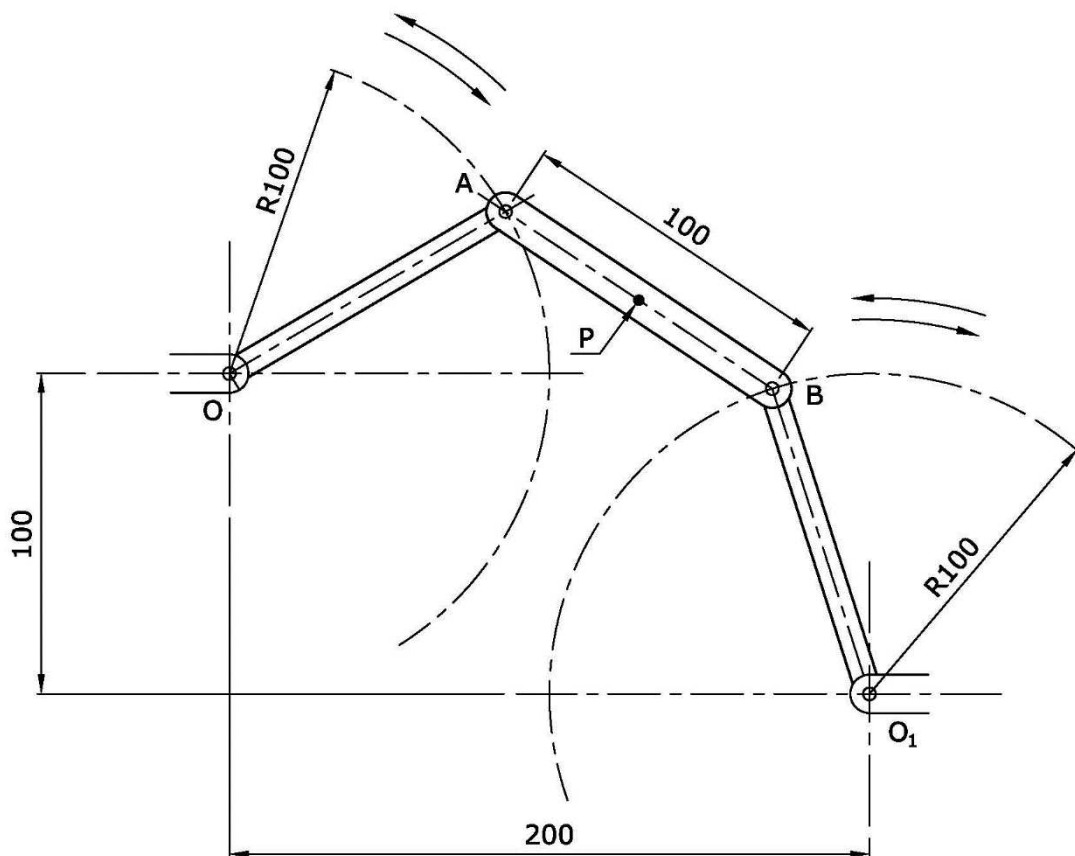

Figure 5b
a) Draw, full size, Figure 5b representing the three links by a line drawing. (2)
b) Plot the complete locus of the point P as the links swing to their maximum travel in both directions. Point P is the mid-point of the link AB. Show all construction lines showing how the path of P is obtained. (10)
c) Name locus of the mid-point on this particular mechanism. (1)